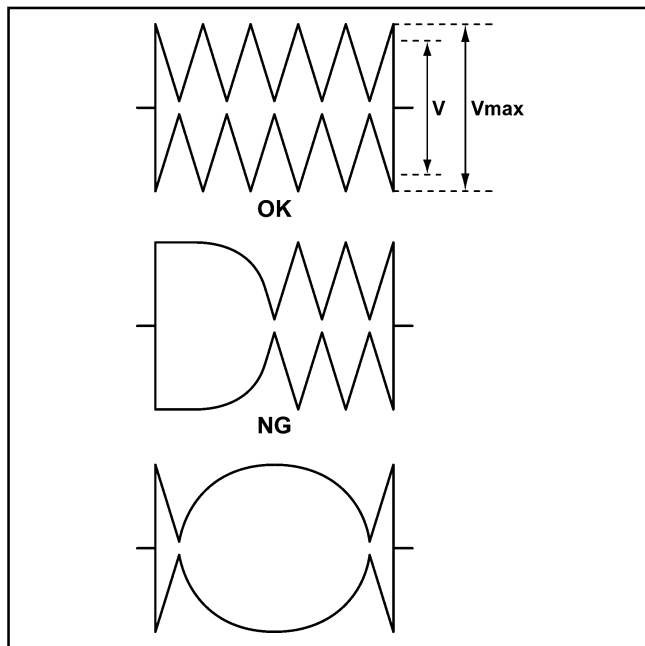

Figure 3-23-1
SPEC	See Figure 3-23-1
- Waveform must be Diamond Style. (Figure 3-23-1)